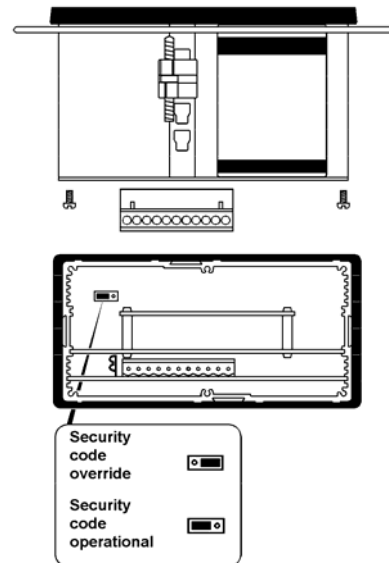

Fig 7 Location of security override link
To gain access to the security code link, remove the instrument terminal block(s) by gently pulling. Remove the five screws securing the rear panel and lift off the panel to reveal the link – see Fig 7.
- Remove the rear terminal block(s) and the rear panel as shown in Fig 7.